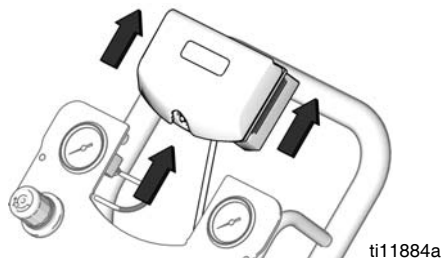

FIG. 10. Remove DataTrak
3. Remove DataTrak module from bracket. See FIG. 10. Take module and attached cable to a non-hazardous location.